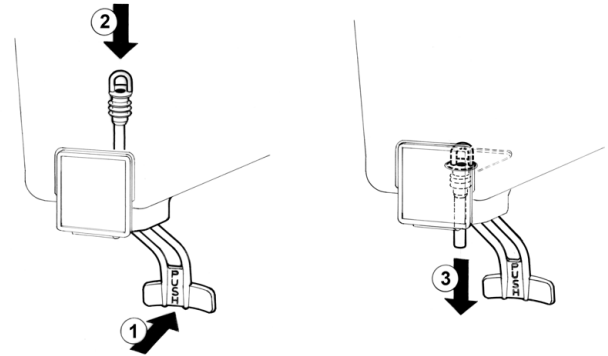

figure 6
2 **Pinch tube faucet:** push the dispensing handle (1) and insert the pinch tube into its vertical seat in the bowl bottom (2). Lightly pull the pinch tube end downwards til it is well arranged (3) (see figure 6).